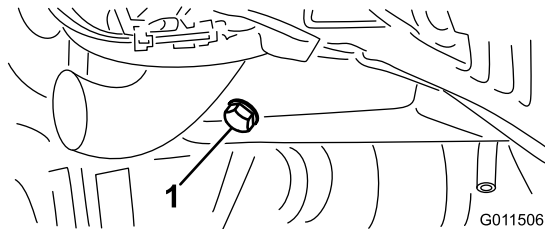

Figure 52
1. Remove either drain plug (Figure 52) and let the oil flow into a drain pan. When the oil stops, install the drain plug.